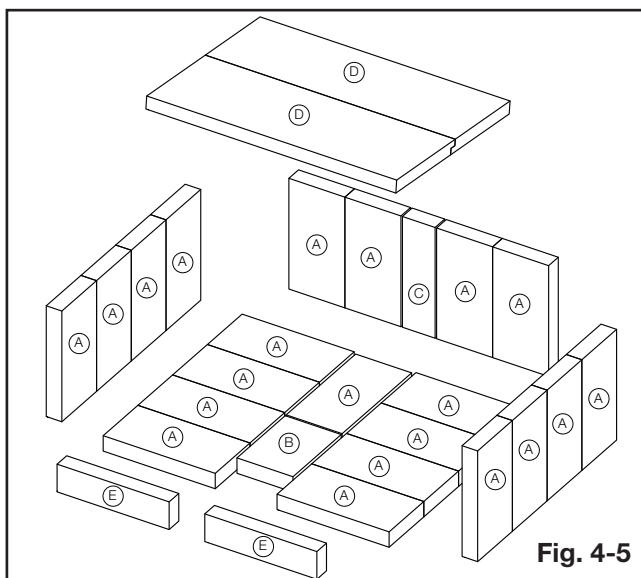

Fig. 4-5
With the appliance and chimney installation completed, move the bricks into place as illustrated below (**Fig. 4-5**).
Place brick (C) in the centre, with two (A) bricks on either side as illustrated (**Fig. 4-5**).